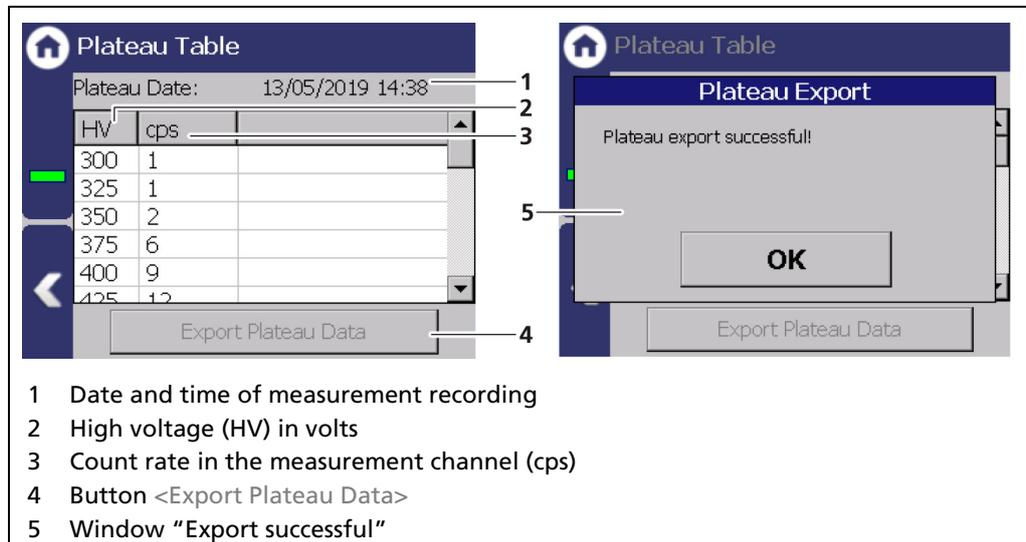
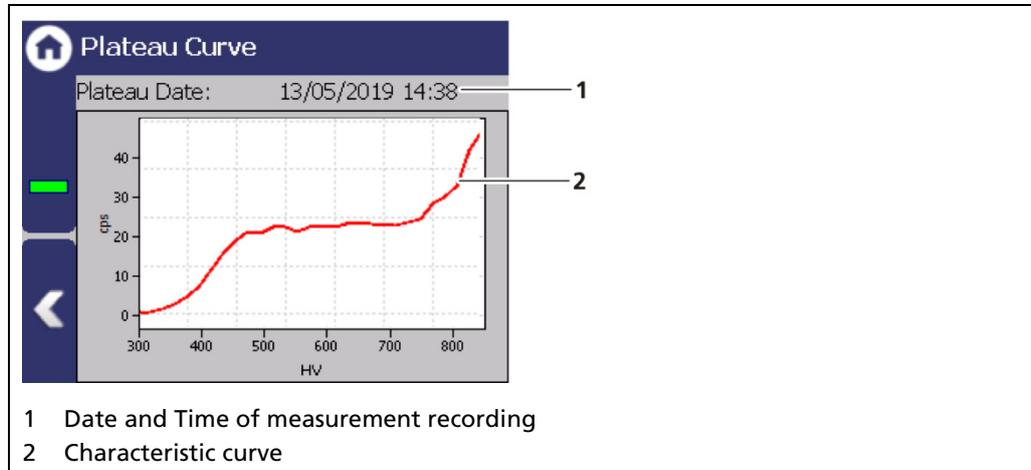

Fig. 62 Plateau Table
Fig. 63 Plateau Curve
- ▶ The recorded values are read and entered into the table (Fig. 62), the plateau curve (Fig. 63) is drawn and stored automatically.
2. Click on the button <Export Plateau Data> (Fig. 62, item 4).
The mapped characteristic curve (Fig. 63, item 2) of the last complete plateau measurement is displayed in the window "Plateau Curve".